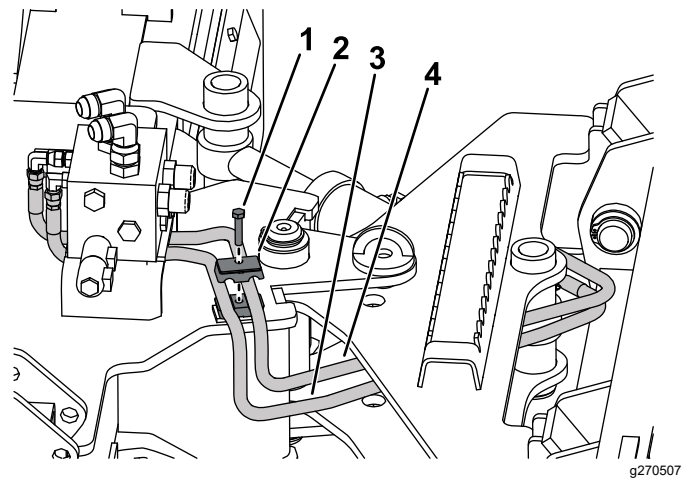
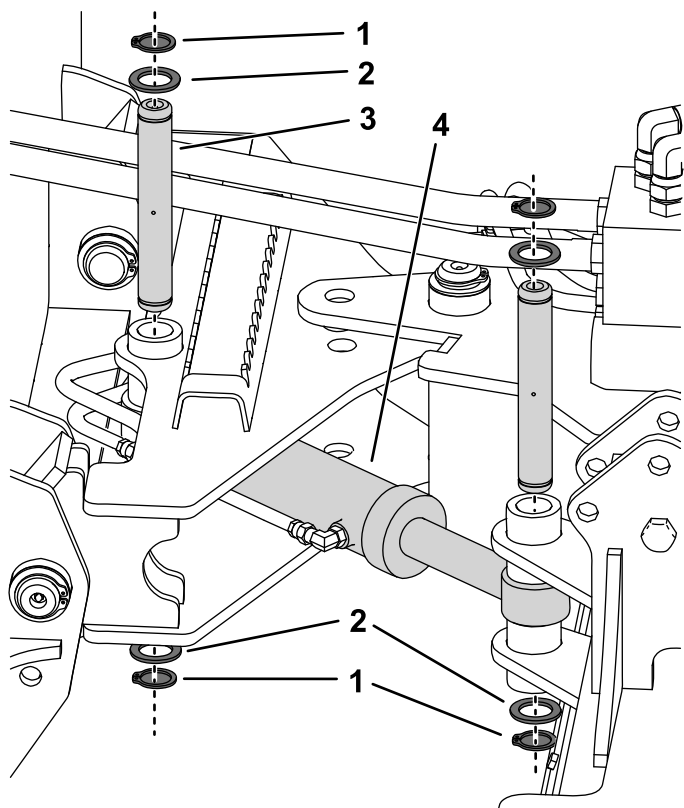

Figure 4
Figure 6
8. Install the long and short hoses to the manifold, then route the hoses under the manifold and install the hose clamp as shown in Figure 4 and Figure 6.
10. Align the hydraulic cylinder assembly as shown in Figure 6.
11. Install a pivot pin at each end of the cylinder with 2 large washers and snap rings at each end of the pivot pins (Figure 6).